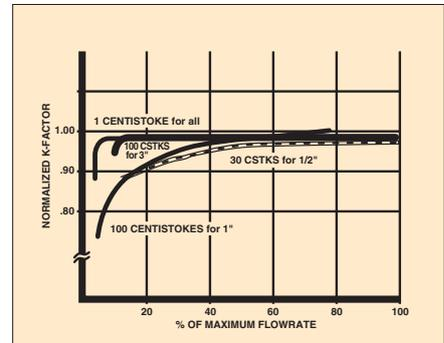

Figure 4: Viscosity effect on a turbine meter
**1) Narrow the operating range:** For any given flowmeter size, it is observed that, as viscosity increases, the low portion of the flowmeter's range is affected more than is the higher portion of the flowmeter's range. To maintain a required accuracy, the minimum flowrate must increase as viscosity increases. There is also a slight change in the average calibration constant as viscosity increases. Figure 4 shows the calibration trends typical of a 1/2", 1" and 3" turbine flowmeter. Note that, the smaller the flowmeter, the more sensitive the unit is to higher
**3) Request a special calibration:** A turbine flowmeter can be calibrated on a test fluid that approximates the viscosity it will see in service, rather than on water. However, this typically adds approximately \$350 to the cost of the turbine meter, and extends the delivery time as well. Calibrations can be performed on fluids up to 100 centistokes, depending on meter size. However, as we see from Figure 4, depending on meter size, the turbine meter may be very nonlinear (greatly changing the K factor, or number of pulses/gallon) at a particular viscosity and flowrange. This can be linearized in a computer for the entire operating range, so as to maintain the highest measurement accuracy, or it may be necessary to narrow the operating range and accept a lower accuracy to permit the use of a